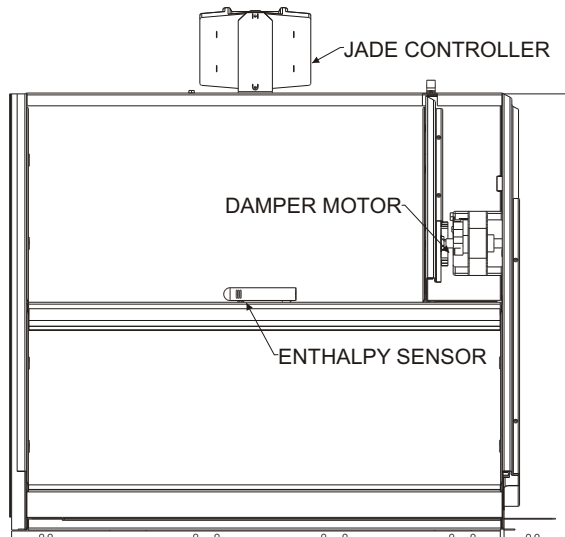

Figure 3
3. Remove controls package located in economizer damper motor section containing the mixed air sensor. See Figure 3.